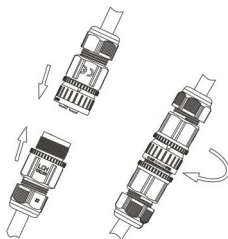

Fig. 3
- Slide the seal into the shell and tighten nut to 2.5Nm (see Fig. 3)